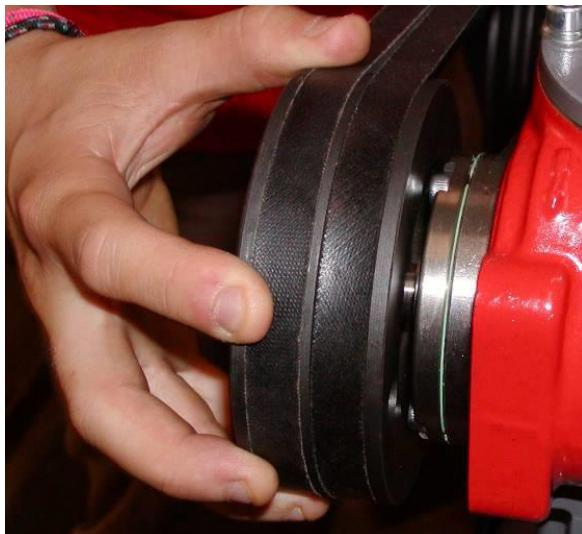

FIGURE 6
1. Before starting the compressor, inject about 12 ounces (0.4L) of RS8000 synthetic lubricating into the intake valve air inlet, keeping the valve pressed down, and at the same time, manually rotating the rotors in the right direction (figure 6). While pressing down the throttle, be careful to avoid damages to the throttle O-ring seal (figure 7).